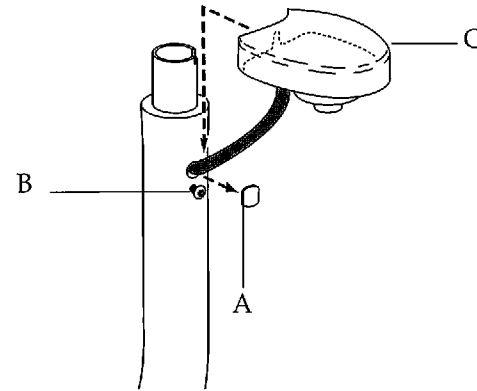

Figure 15. Remove the hole plug and attach the mounting screw. (A) hole plug; (B) mounting screw; (C) cap housing
1. Carefully remove the hole plug from the front-mount arm by lifting from the bottom (see Figure 15).